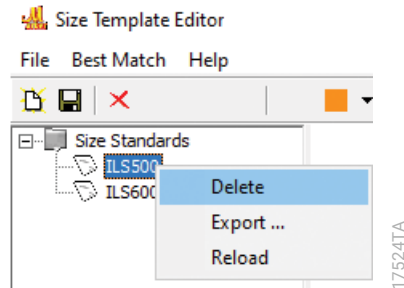

Figure 138. Deleting a size standard template file from GMHID-Spectrum and the 'Size Standards' directory.
1. To delete a size standard template file from the software and the 'Size Standards' directory, right-click on the **size standard**, then select **Delete** (Figure 138).
2. To export a size standard template as an .xml file, right-click on the **size standard**, then select **Export** (Figure 138). This will open a 'Save As' window. Navigate to the desired location and save the exported file. A copy will still remain in the 'Size Standards' directory.
3. You can undo edits to a size standard template and restore the file to its previous state by right-clicking on the **size standard**, then selecting **Reload** (Figure 138).